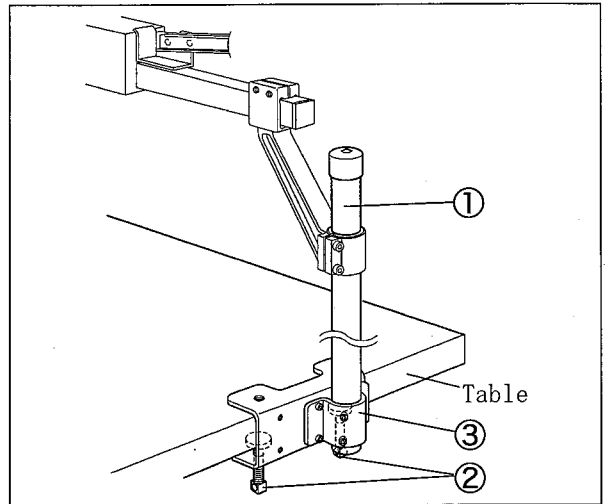

Fig. 2-16
1. Loosen the bolts ② to adjust the right-and-left position of main pole ① and do not let the main pole obstruct sewing operation. (Fig. 2-16)